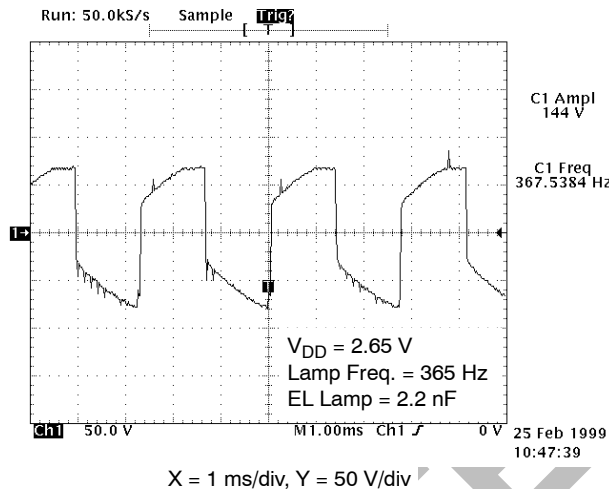
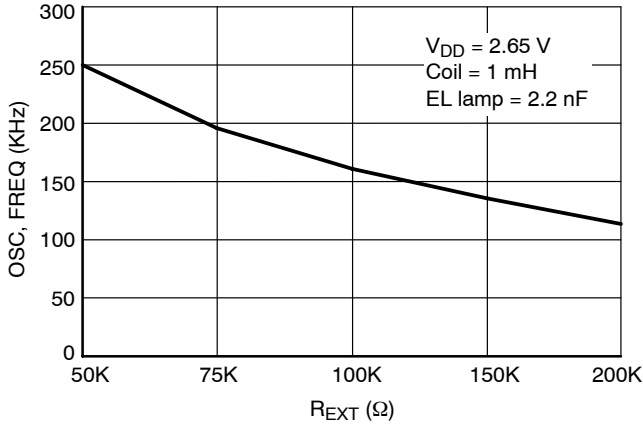

Figure 3. Output Waveform versus Time
Figure 4. Oscillator Frequency versus R_{EXT}
Since the fundamental frequency of the oscillator is set by the external resistor (R1), the temperature coefficient of the frequency is dominated by the value of this resistor. A low temperature coefficient (TC) resistor is suggested to use for keeping the variation of oscillator's frequency low against the operation temperature range. (See Page 4, Fig. 3 & Fig. 4)